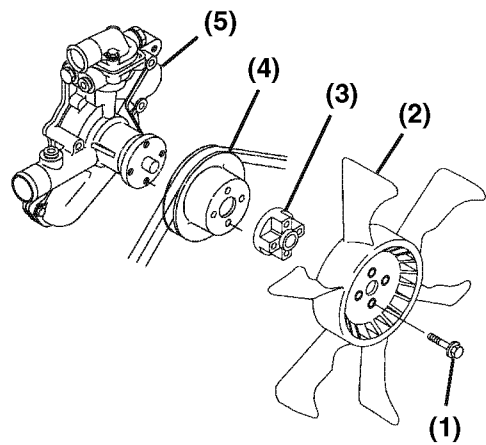

Figure 8-6
5. Remove the engine coolant fan guard (if equipped), engine coolant fan (if equipped) (**Figure 8-6, (2)**), spacer (**Figure 8-6, (3)**), engine coolant pump V-pulley (**Figure 8-6, (4)**) and V-belt.